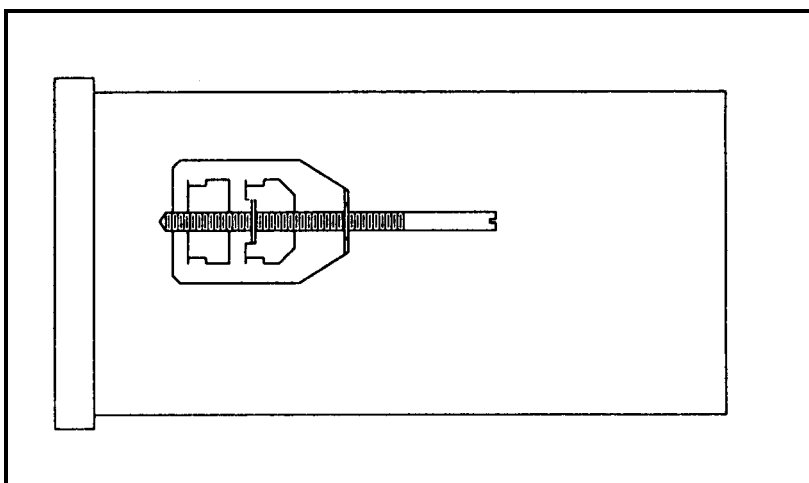

Figure 2-1: A Clip-On Mounting Bracket
1. Remove the two clip-on mounting brackets (see Figure 2-1 below).